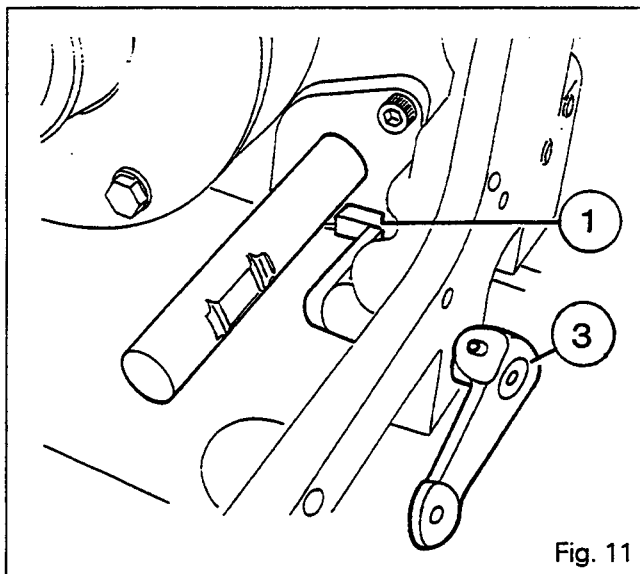

Fig. 11
21. Refit the rod (3) (Fig. 11).
Note: Make sure that the finger (1) of the creeper gear control rod is pointing towards the front of the tractor (Fig. 11).